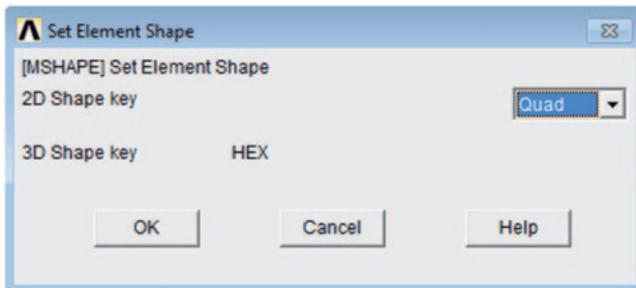

Fig. 9.17 *Set Element Shape* dialog box
- *Set Element Shape* dialog box appears (Fig. 9.17), click on **OK**.